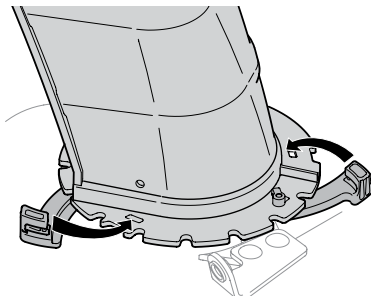

Figure 2-14
2. Close flange keepers to secure chute assembly to chute base. Flange keepers will click into place when properly secured. See Figure 2-14.